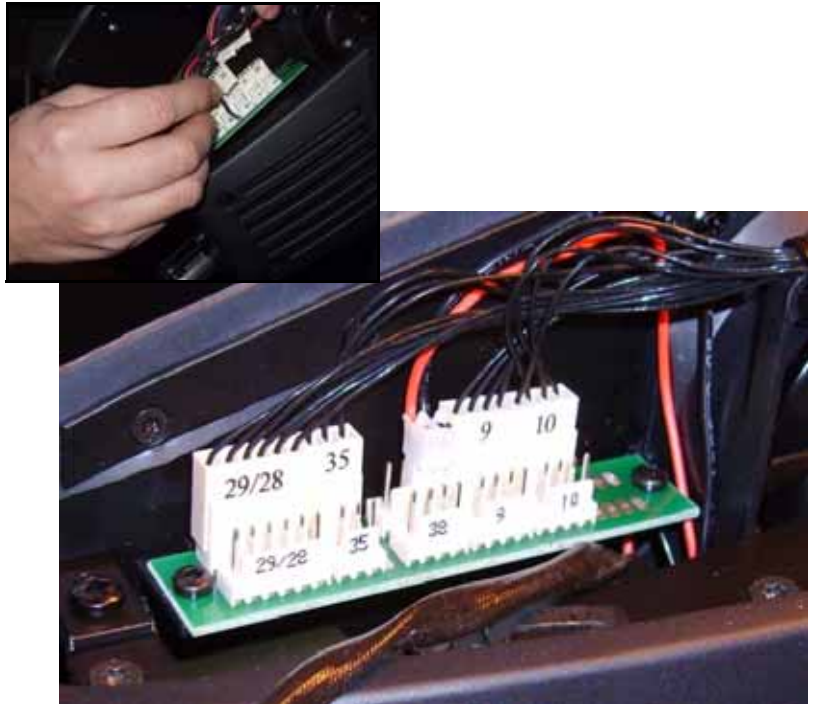

Figure 40
44. Disconnect all the outer row of zoom/focus module multi-connectors plus the left-hand lamp fan plug on the front two pins of connector 38 on the inner row on the left-hand side of the head, leaving the connectors as shown in Figure 40.